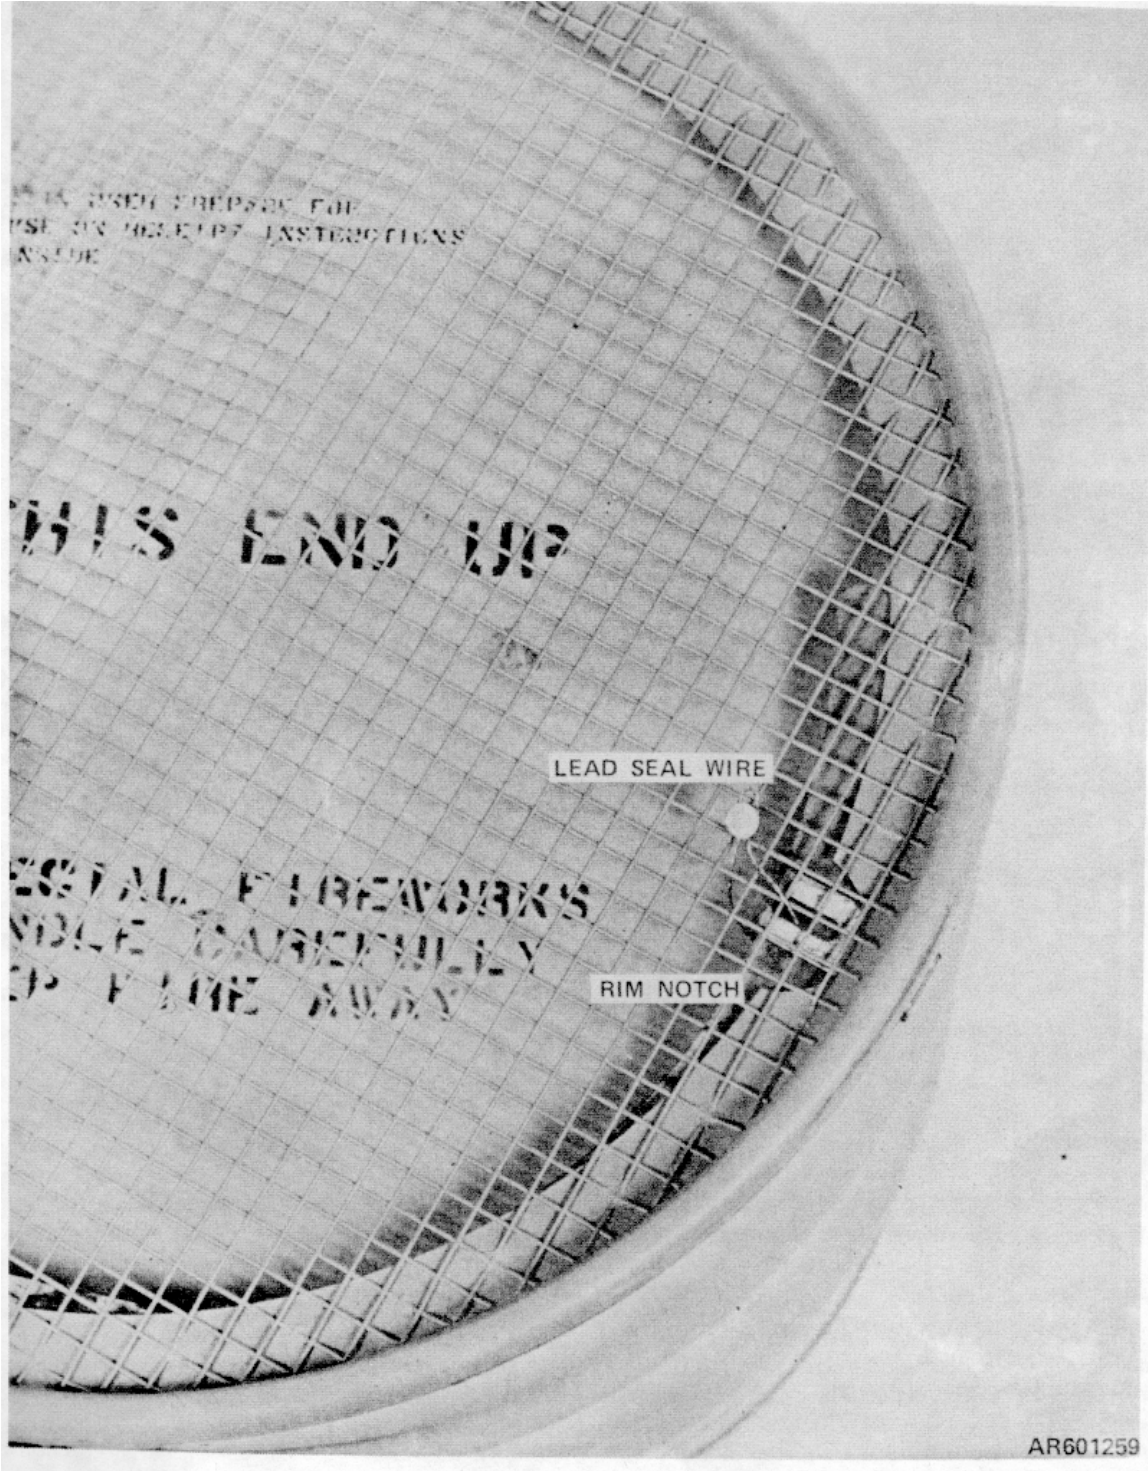

Figure 2-3. Lead seal wire installment
h. (See figure 2-3.) Place the screen cover (*f* above) on top of the outer drum cover. Fasten the screen cover to the lever lock ring by passing the wire of the wire lead seal (*d* above) through the screen cover, through the hole in the lever lock ring handle, the lever catch, and through the lead seal. Crimp the lead seal after
- b. Periodically check that wire lead' seal (fig. 2-3) is intact and that the contents have not been tampered with. If missing or broken, do not operate the document destroyer without first checking to see that the screen cover, inner drum, three igniters, two railroad fusees, and oxidizing agent are present and in good condition.
- a.* Break the lead seal wire (fig. 2-3).
- f.* the screen cover on top of the metal outer drum. Line up a rim notch (fig. 2-3) over a raised igniter end.